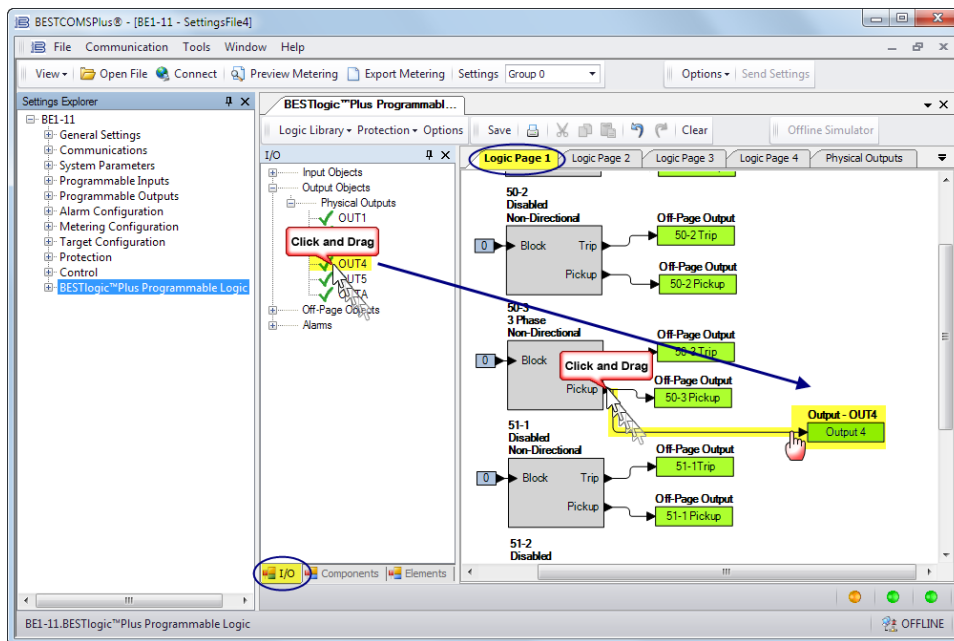

Figure 2-16. BESTlogicPlus Programming OUT4
Step 10: In this step, the Pickup output of the 50-3 element is connected to Output 4. When the Pickup output of the 50-3 element is true, the label of Output 4 is displayed in the fault report and/or sequence of events report. The label is named in Step 12. Click the Logic Page 1 tab and then click the I/O tab at the bottom. Expand Output Objects and then Physical Outputs. Click and drag OUT4 over to the logic diagram. Click on the Pickup output of the 50-3 element and drag it to the input of OUT4 to make a connection. Refer to Figure 2-16.